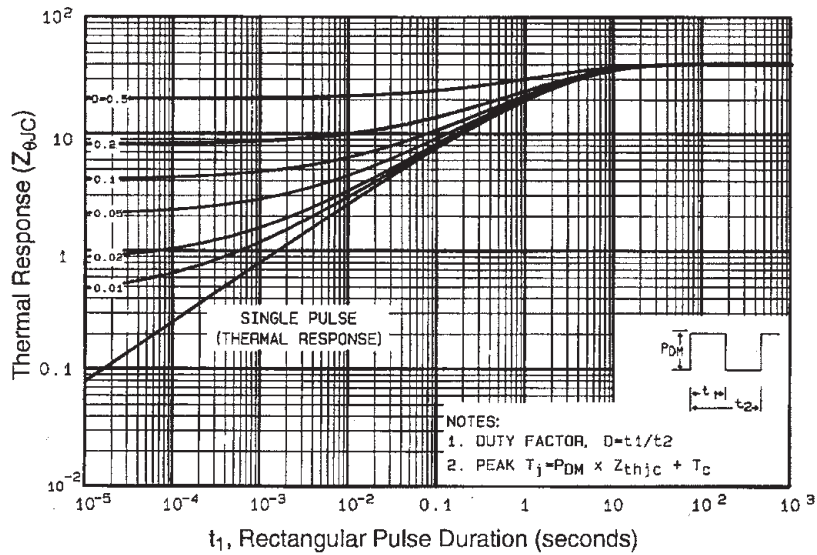

Fig 11. Maximum Effective Transient Thermal Impedance, Junction-to-Case
① Repetitive rating; pulse width limited by max. junction temperature. (See fig. 11)
② $V_{DD} = 25V$, starting $T_J = 25^\circ\text{C}$, $L = 25\text{mH}$